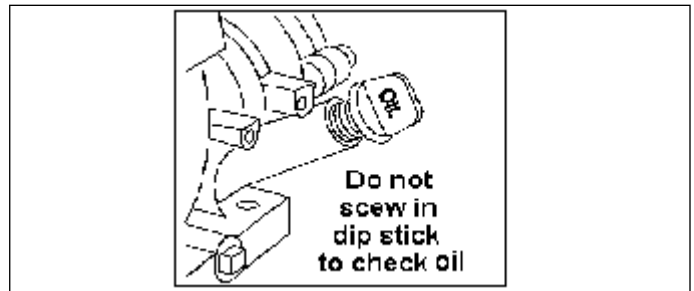

Figure 6- Check Oil Level
**SHORT DIPSTICK** - Set short dipstick into opening. Do not screw in to check oil level. See Figure 6.
Check only if signs of leakage are detected,- then, check oil level. For check plug, see Figure 6.